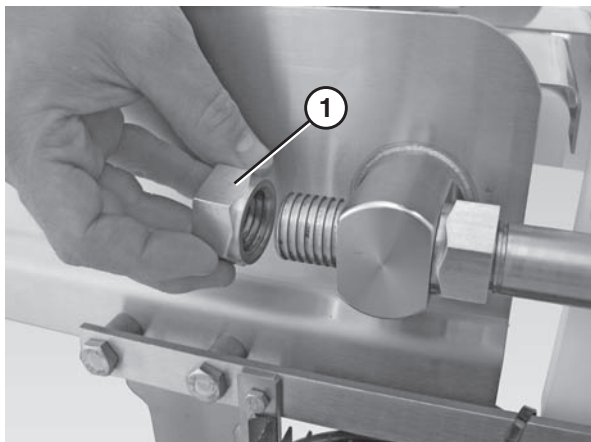

Figure 75
1. Remove the back nuts (**Figure 75, item 1**) on both discharge nose bar shafts.